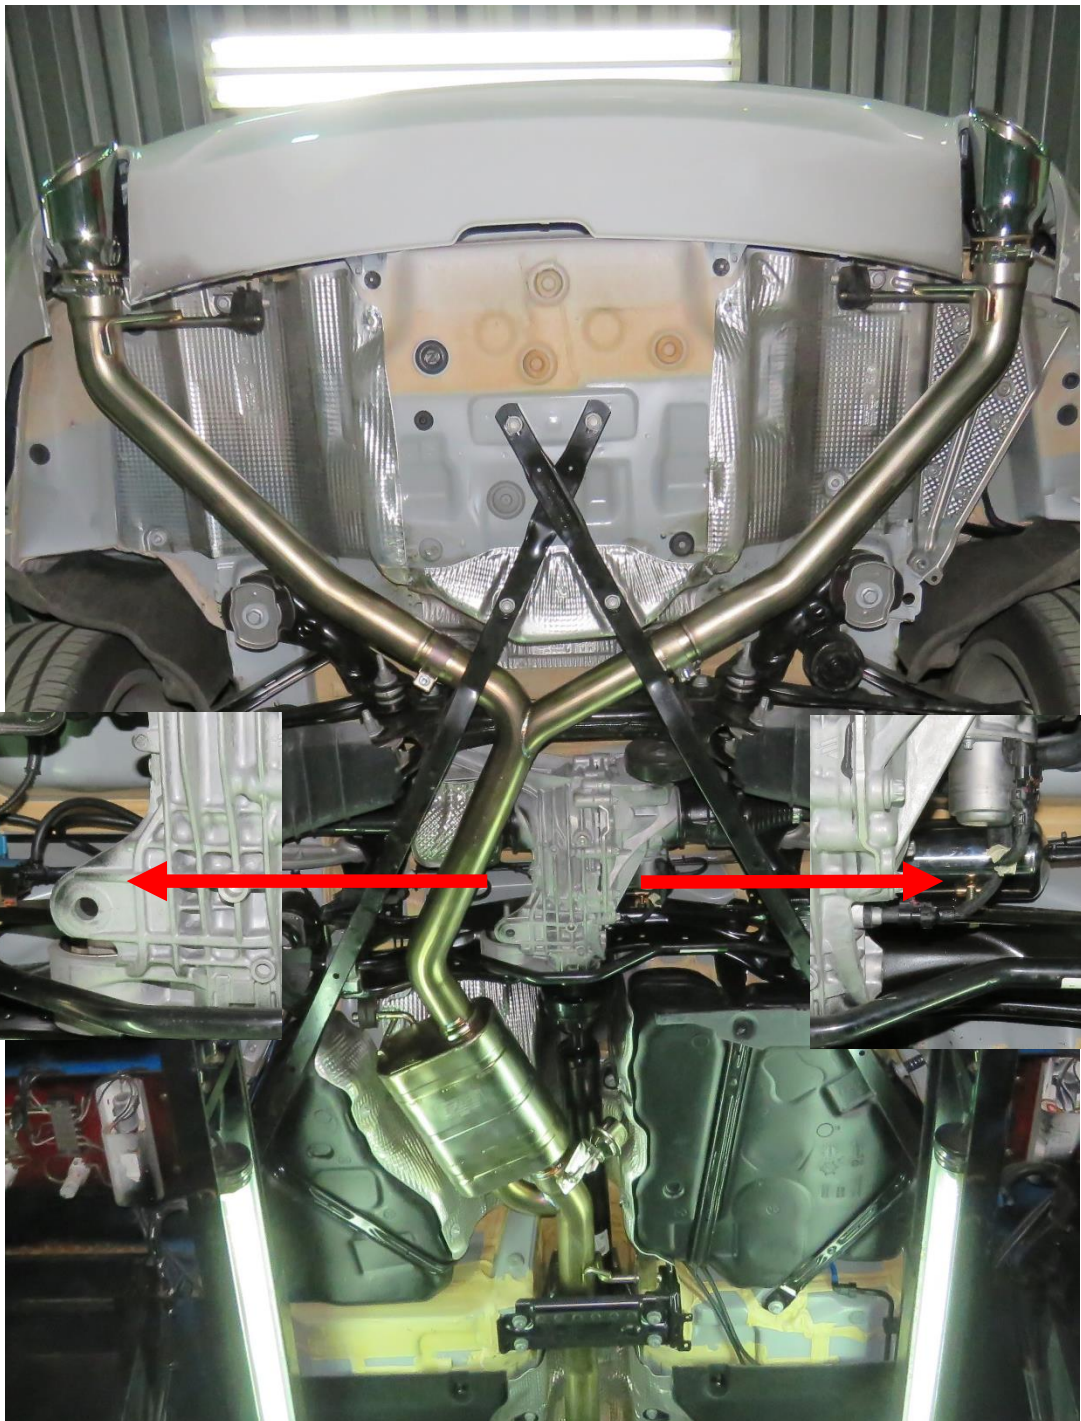

Figure 17
10. Electronic valve and gas storage barrel install with Differential left and right side(Figure 17)